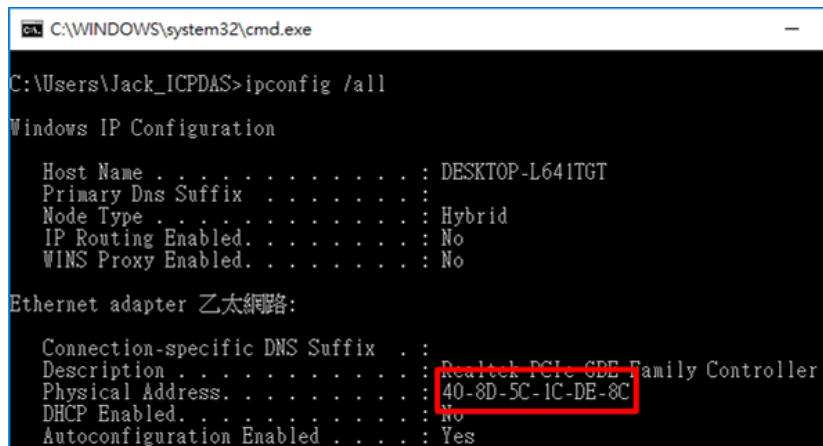

Figure 4-8. Computer's MAC
Step2. Please execute “ipconfig/all” command on the command line window. The computer’s MAC will show at the command line windows. The result has shown in Figure 4-8.